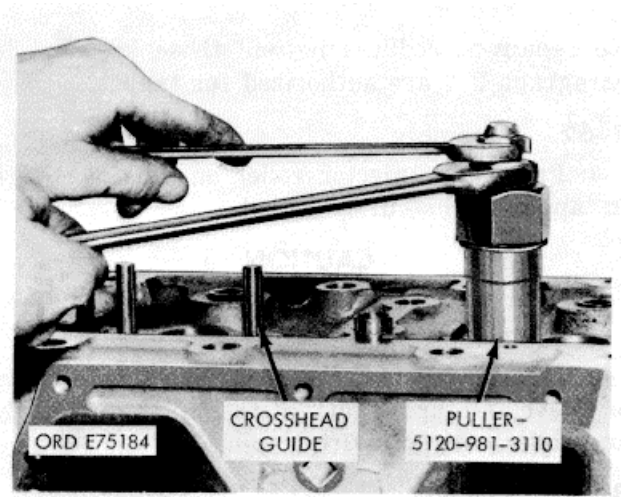

Figure 3-28. Crosshead guide-removal/installation.
- d. Using cross head guide puller (43, fig. B-28) remove crosshead guides as shown in figure 3-28.